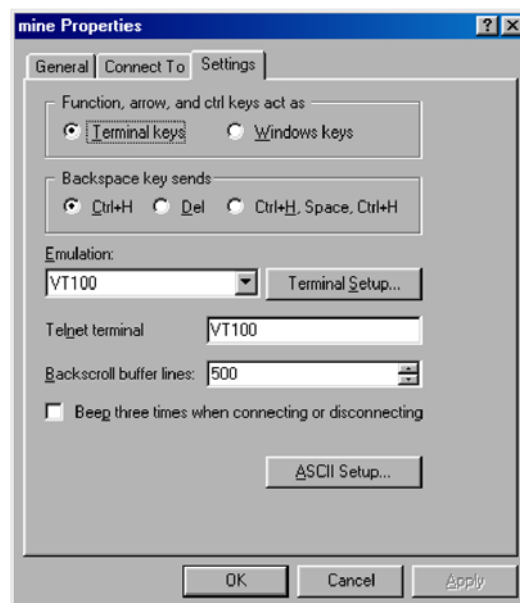

Figure 20. Terminal keys configuration
- Configure the settings for *Function, arrow and ctrl keys act as to Terminal keys* as shown in figure 20, then click **OK**.